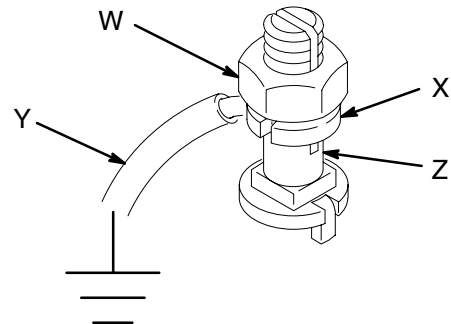

Fig. 2
2. *All Other Pumps:* use a ground wire and clamp. See Fig. 2. Loosen the grounding lug locknut (W) and washer (X). Insert one end of a 1.5 mm2 (12 ga) minimum ground wire (Y) into the slot in lug (Z) and tighten the locknut securely. Connect the other end of the wire to a true earth ground. Order Part No. 237569 Ground Wire and Clamp.